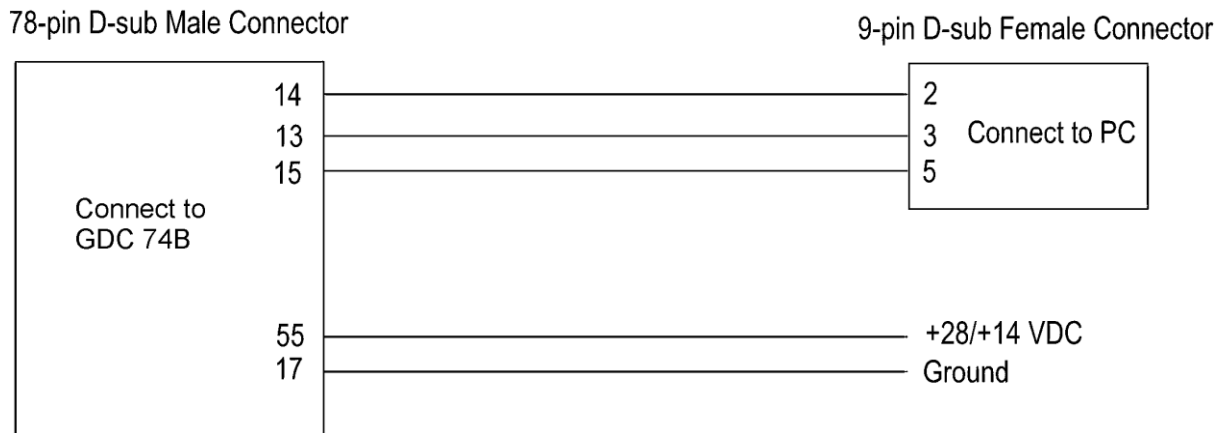

Figure 5-43. GDC 74B PC Interface Cable
- e. Fabricate a cable built to interface a GDC 74B to a PC Serial Port (see Figure 5-43). The cable is not available from Garmin.
2. Connect the GDC 74B to the PC serial port using the interface cable (Figure 5-43).
3. Connect the interface cable to the power supply (Figure 5-43).